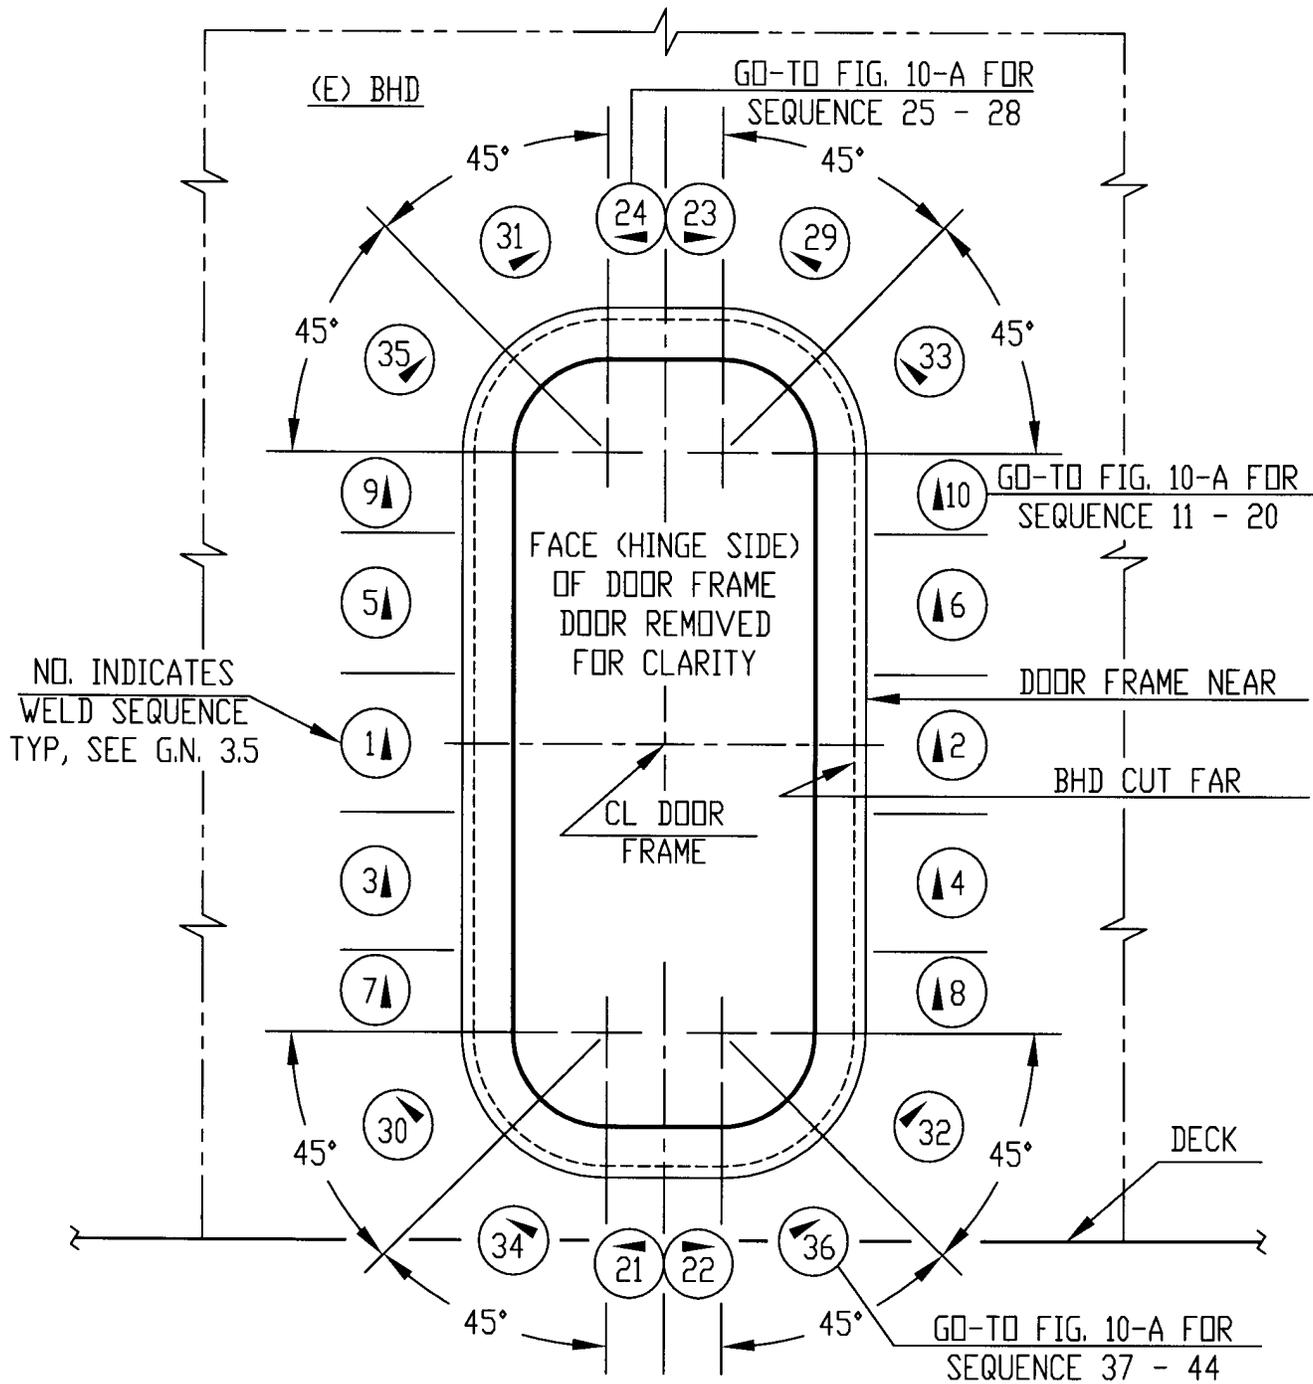

FIGURE 9-A
3.5 WELD FRAME TO BULKHEAD USING PROPER WELDING PROCEDURES AND THE SEQUENCE SHOWN IN FIGURES 9-A AND 10-A, SHEET 9 AND 10, TO MINIMIZE WARPING OF THE DOORFRAME AND BULKHEAD. SINCE EVERY DOOR INSTALLATION IS UNIQUE, THE WELDING SEQUENCE MAY REQUIRE TAILORING TO SUIT LOCAL CONDITIONS. KEY FEATURES OF THIS TO NOTE ARE: